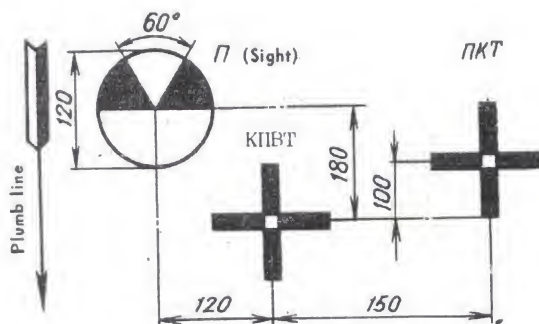

FIG. 138. BORESIGHTING TARGET
4. Install a board at a distance of 100 m from the KIBT machine gun flash hider. Set plumb the boresighting target (Fig. 138) on the board with its centre at the level of the machine gun barrel horizontal axis. The boresighting target should be properly illuminated, and the source of light must not impede aiming of the machine guns and sight on the crosses and aiming mark of the target.